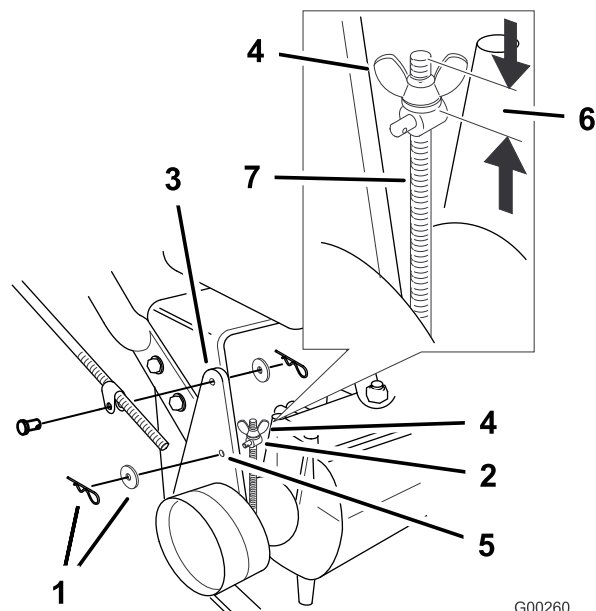

Figure 46
Note: For the initial adjustment, adjust the wing nut until it is 1-1/4 inches from the top of the rod (Figure 46).
5. To adjust the brake remove the hair pin cotter and washer from the brake lever and trunnion (Figure 46).
8. Install the trunnion into hole F (Figure 46). Tighten the wing nut.
9. Secure trunnion to brake lever with washer and hair pin cotter (Figure 46).